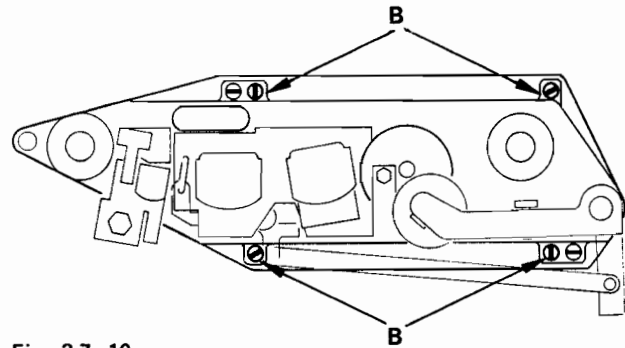

Fig. 3.7-10
- Unscrew motor fasteners B ( fig. 3.7-10 ) on headblock. The other screws on headblock shall not be touched as they retain the headblock itself.